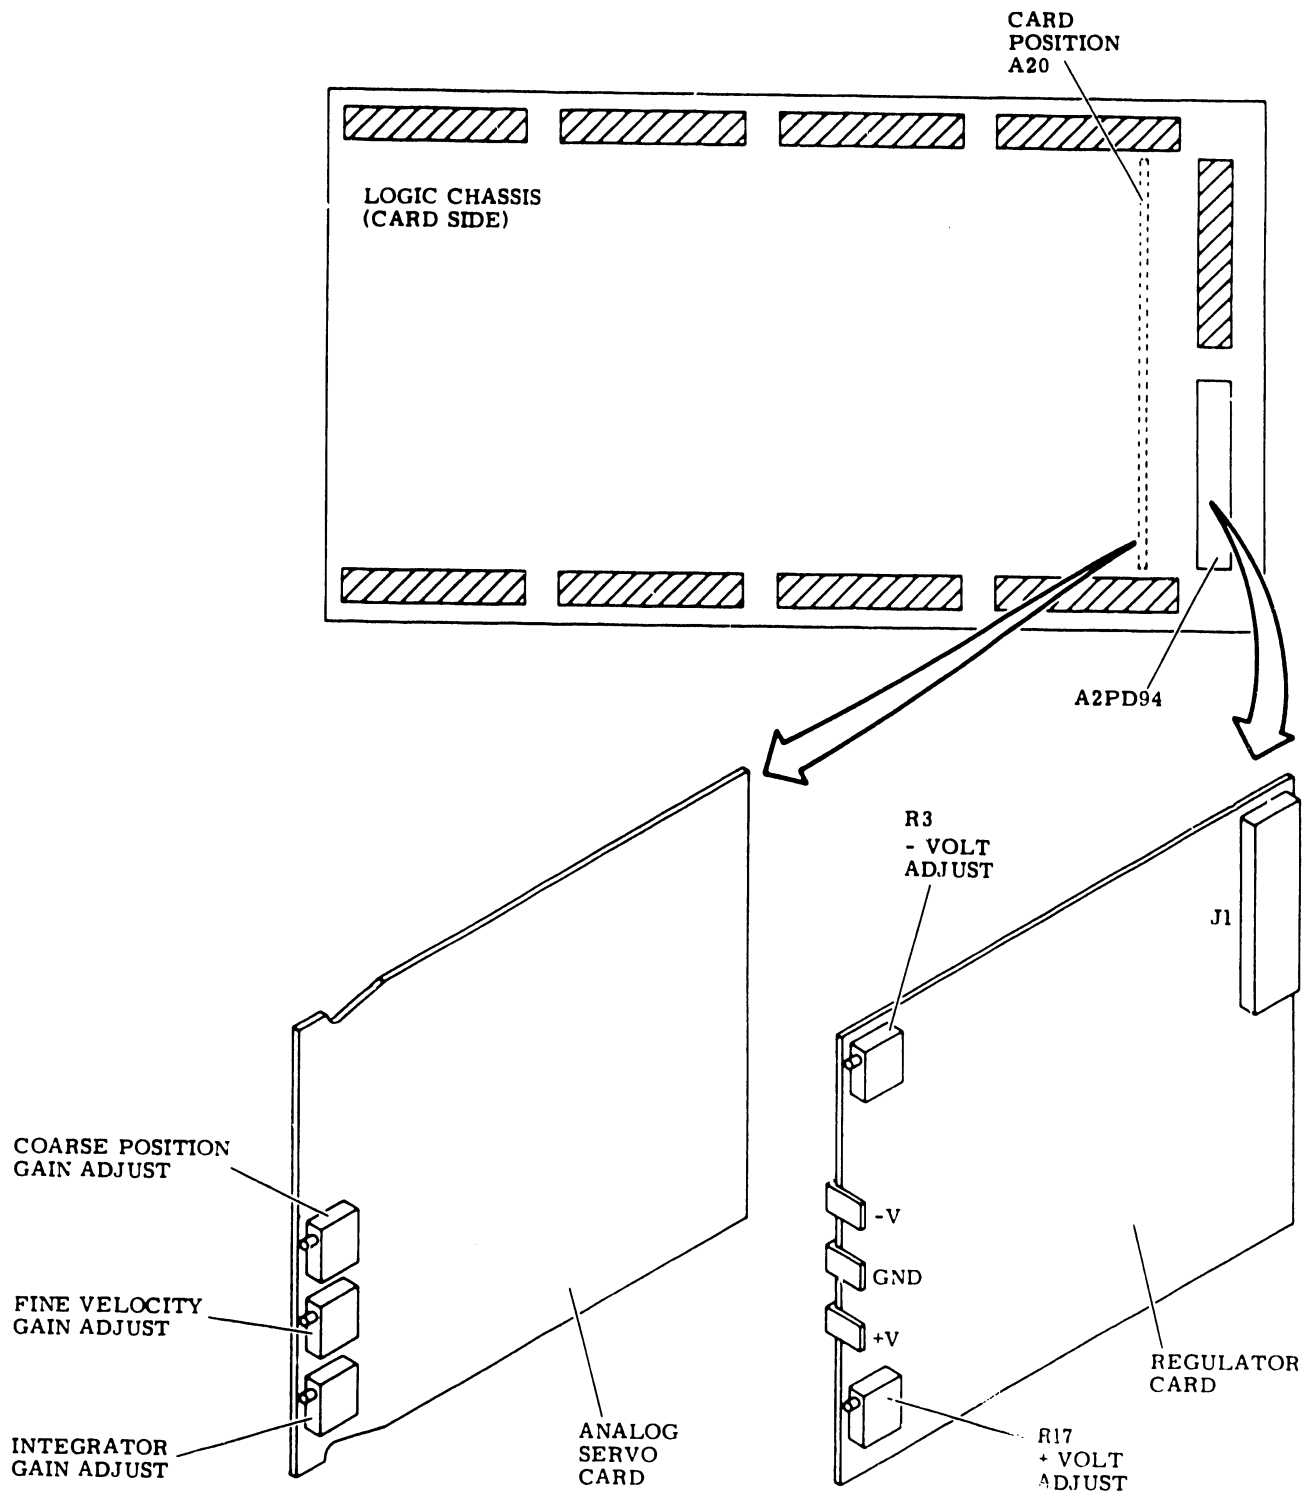
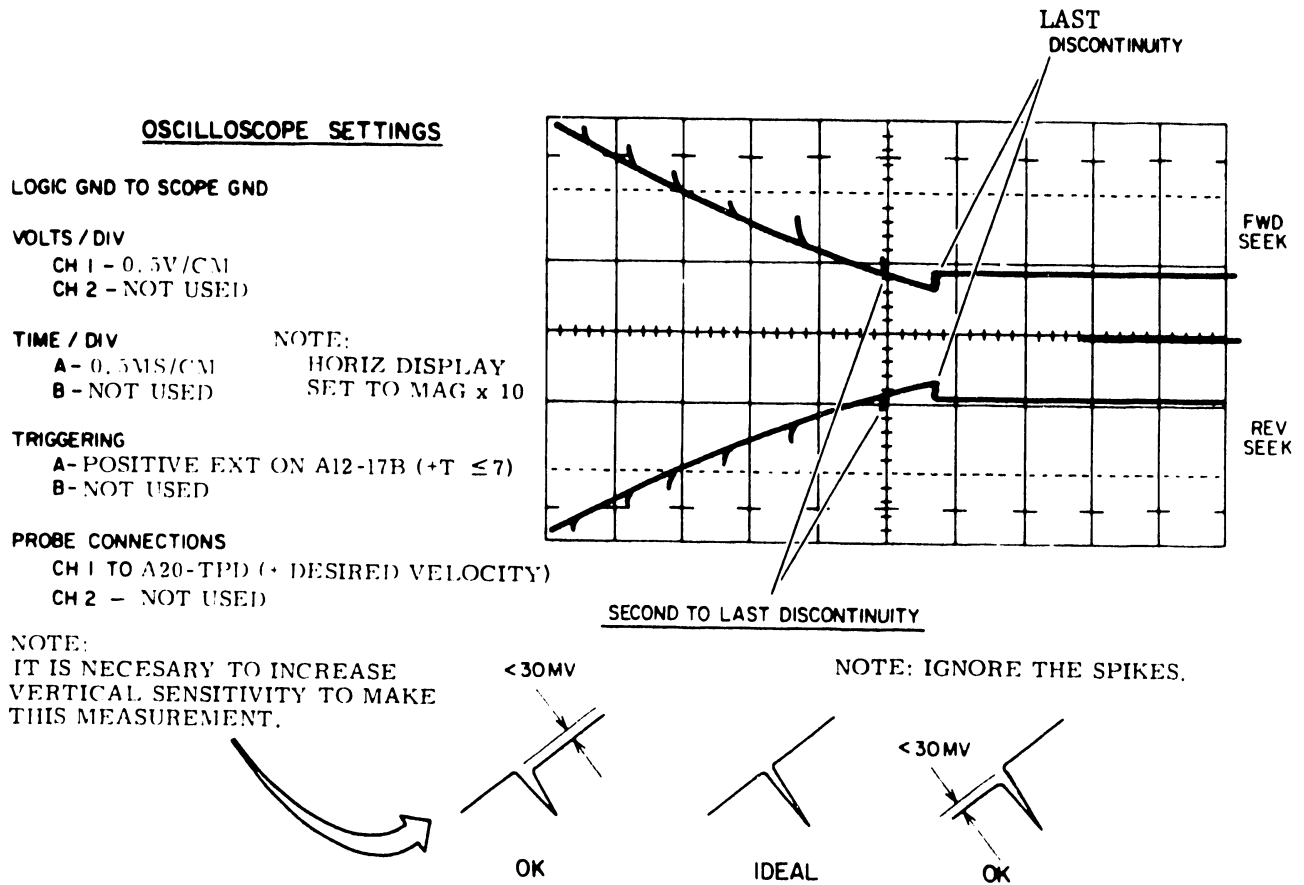

FIGURE 4-22 REGULATOR AND ANALOG SERVO CARDS
FIGURE 4-24 INTEGRATOR GAIN WAVEFORM
1. Command continuous seeks between cylinders 000 and 200 (80).
- b. Connect the negative meter lead to the terminal marked ground, on the front edge of the regulator card (Figure 4-22).
- a. Command continuous seeks between cylinders 000 and 1466 (366).
- e. Observe the display. The time between ON cylinder pulses should be within 50 to 54 msec; if it is not, adjust top potentiometer on card A20 until this requirement is met (Figure 4-22).
- a. Command continuous seeks between cylinders 000 and 200 (180).
- b. Set up the oscilloscope as indicated in Figure 4-24 and adjust it until the two sloped curves shown on Figure 4-24 are displayed. VOLT/CM and TIME/CM settings have to be changed to make the measurement required in step c.
- c. Make certain that the second to last discontinuity (indicated on Figure 4-24) has a difference of $0 \pm .03V$ (ignore the spike). If it exceeds this value, adjust the bottom pot on A20 so that it meets these requirements.